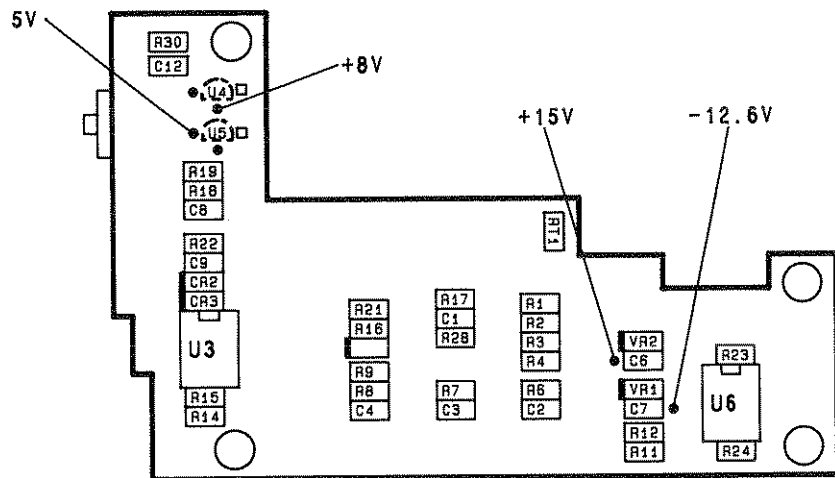

Figure 8-1. A2 Circuit Board Power Supply Check Points
2. Refer to Figure 8-1 and check the power supply voltages of +15, -12.6, +8 and -5 volts at the 4 pads indicated. Since the +15V and -12.6V are supplied by the analyzer, those voltages are specified in the analyzer's manual. The +8V should be  $+8.3 \pm 0.3V$ ; -5V should be  $-5 \pm 0.2V$ .
3. Refer to Figure 8-1 and check the power supplies at the various components as indicated by malfunction.